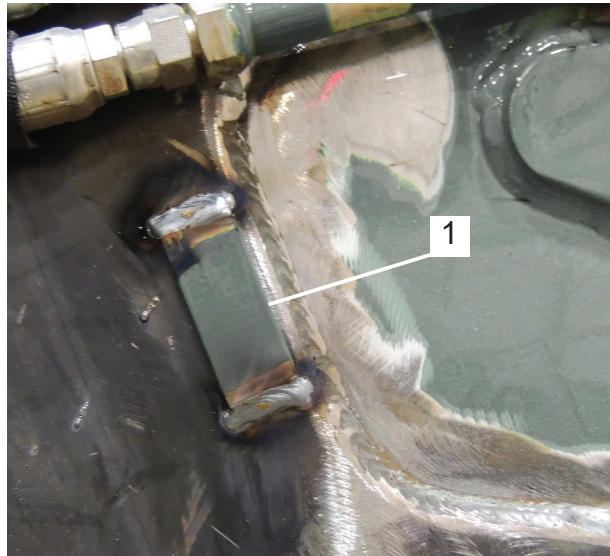

Figure 7
14. Use a 1/4" wide weld (ends only) and weld the correct serial number plates back to each arm (Figure 7, Item 1).